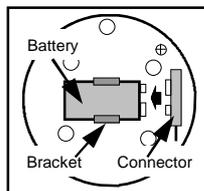

Fig. 4
- 3) After having connected the battery clip, insert the battery into the appropriate housing located on the base of the unit (see Fig. 4).